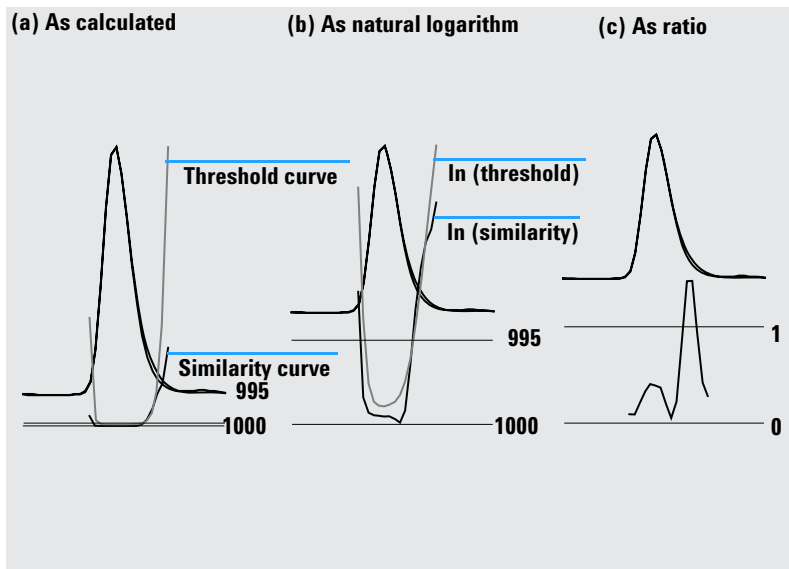

Figure 10 Threshold and Similarity Curves,
- 1 Without any transformation, see Figure 10 on page 37 (a);
- 2 As the natural logarithm, \ln , see Figure 10 on page 37 (b), with the advantage of more detail for the peak apex in the lower part of the graphic;
- 3 As a ratio: $\text{ratio} = \frac{1000 - \text{similarity}}{1000 - \text{threshold}}$, see Figure 10 on page 37 (c).